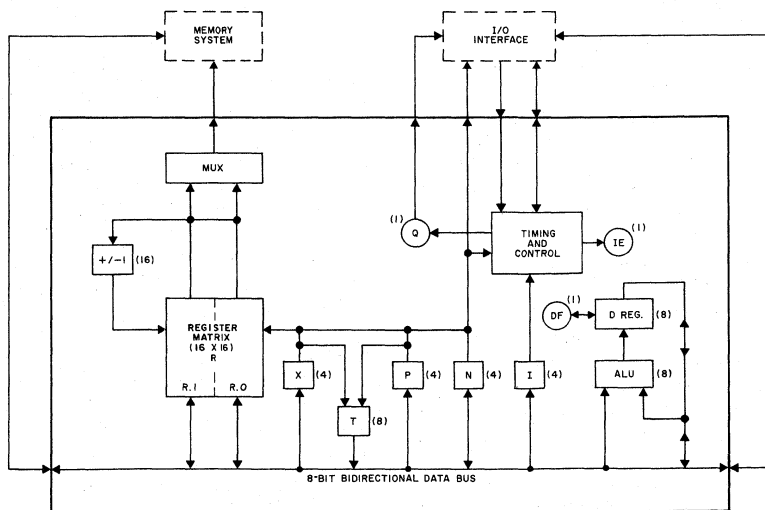

Fig. 27 - CDP1802 architecture.
Fig. 27 shows the COSMAC architecture for the CDP1802. The principal feature of this architecture is a register matrix consisting of sixteen 16-bit scratchpad registers. Individual registers in the array (R) are designated or selected by the 14-bit binary code from one of the 4-bit designators P, X, or N. The contents of any register can be directed to any one of the following three paths: